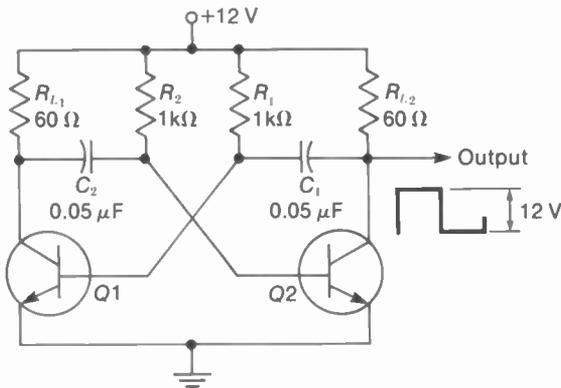

FIGURE 20-27 FREE-RUNNING, COLLECTOR-COUPLED, SYMMETRICAL MULTIVIBRATOR.
The collector-coupled MV in Fig. 20-27 is a free-running, symmetrical MV with square-wave output from either stage.  $C_2$  and  $R_2$  provide coupling to the base of  $Q_2$ . Feedback to the base of  $Q_1$  is provided by  $C_1$  and  $R_1$ . Note that  $R_1$  and  $R_2$  return to the +12-V supply in order to provide forward bias at the base for the NPN transistors. However, when the collector voltage of one stage drops, the negative drive at the next base produces cutoff. The multivibrator oscillates, with  $Q_1$  and  $Q_2$  alternately off and on as conduction in one stage cuts off the other.
6. In the plate-coupled multivibrator in Fig. 20-19, the plate circuit of each tube is  $RC$ -coupled to drive the grid of the opposite tube. Conduction in one tube drops its plate voltage to drive the next grid negative beyond cutoff. The collector-coupled MV with transistors in Fig. 20-27 corresponds to the plate-coupled MV.
8. In the collector-coupled MV of Fig. 20-27, if the supply voltage is increased to  $28\text{ V}$ , the peak-to-peak output will be approximately \_\_\_\_\_ V.